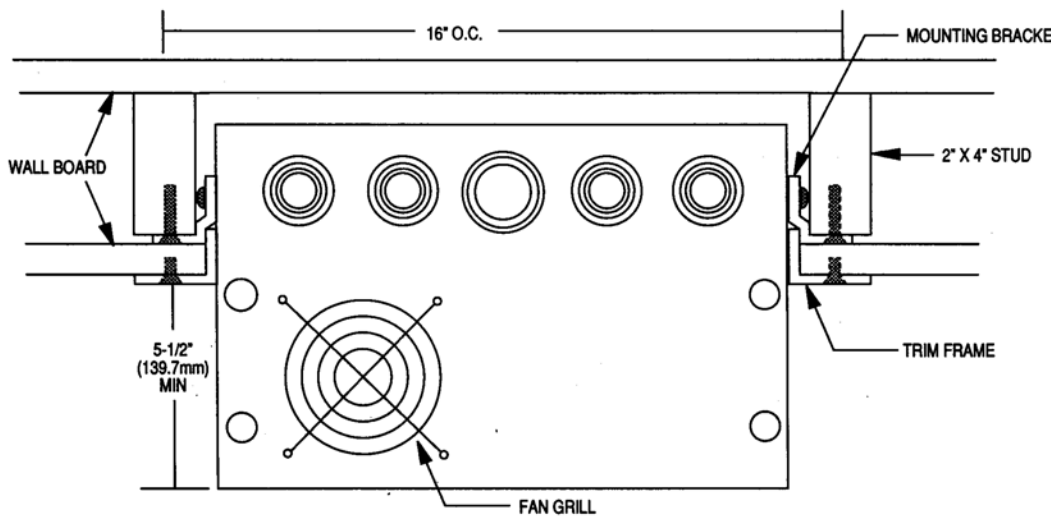

Figure 2 - Semi Recessed Mounting Dimensions
- Mount the two mounting brackets to the sides of the pack with the 10-24 screws and lockwashers supplied. Refer to Figure 2.